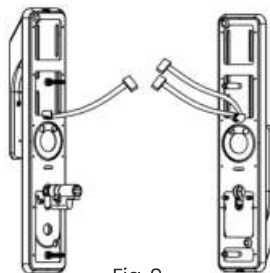

Fig. 9
- Insert safety knob pin in to safety knob hole on inner handle and fix by split pin. Ref Fig. 9.